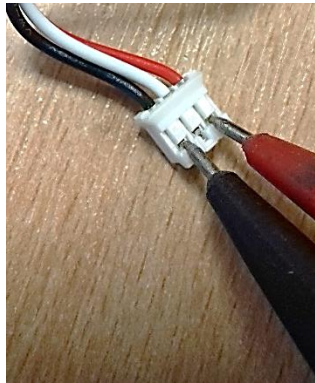

Fig: 15
2. Set your multimeter to DC voltage mode and measure the voltage between the red and black wires on the battery. (Fig: 15)